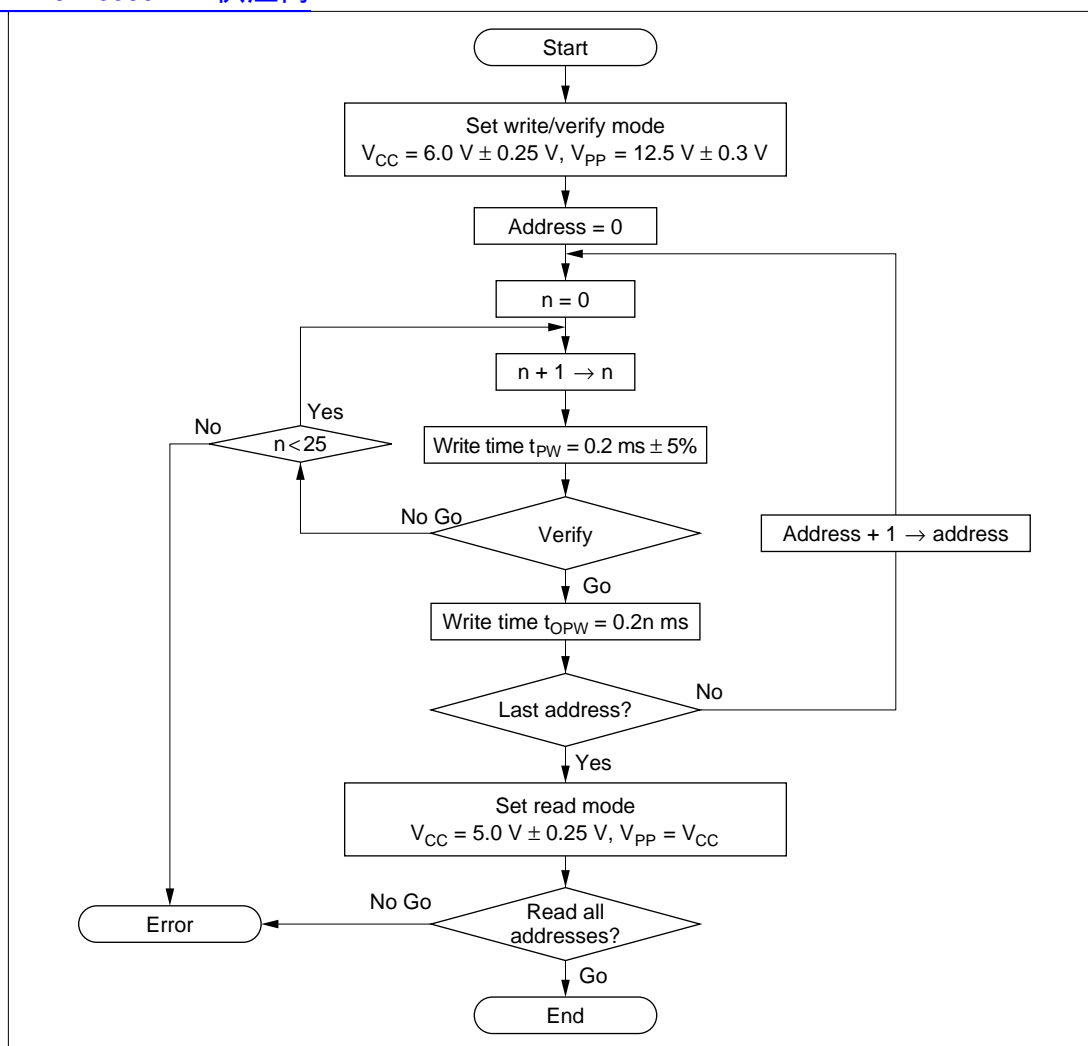

Figure 6.4 High-Speed, High-Reliability Programming Flow Chart
An efficient, high-speed, high-reliability method is available for writing and verifying the PROM data. This method achieves high speed without voltage stress on the device and without lowering the reliability of written data. The basic flow of this high-speed, high-reliability programming method is shown in figure 6.4.
3. t_{OPW} is defined by the value given in figure 6.4, High-Speed, High-Reliability Programming Flow Chart.